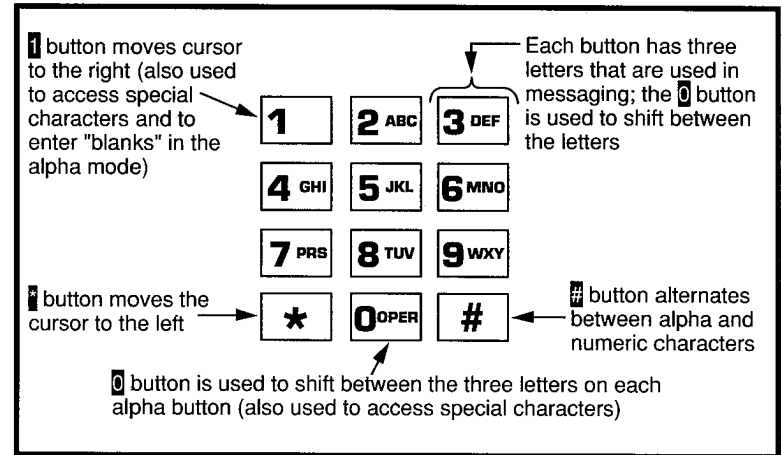

FIGURE 1-DIALPAD INFORMATION
- 1) Press the **#** button to access alpha characters. Refer to Figure 1 for an explanation of the dialpad buttons.